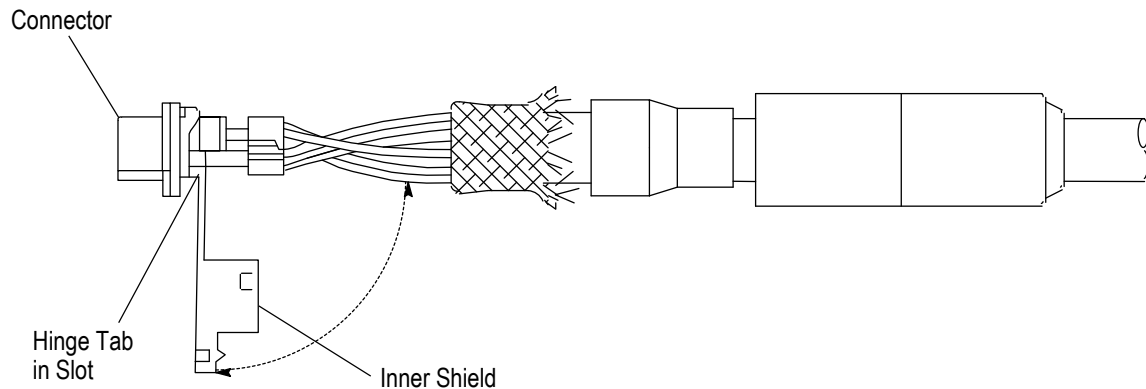

Figure 7
1. Position the hinge tabs of the inner shield into corresponding slots in the connector shell, and move the shield towards the connector as shown in Figure 7.